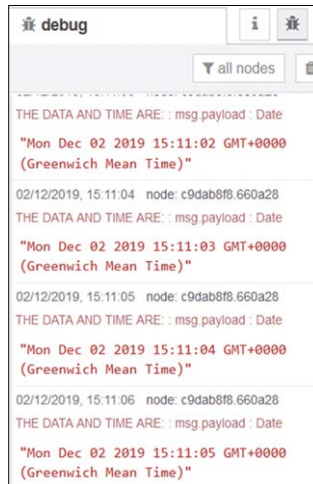

Figure 4.14 Displaying the message every 5 seconds
- Click the **inject** nodes button. You should see the date and time displayed every second in the following format (see Figure 4.14):